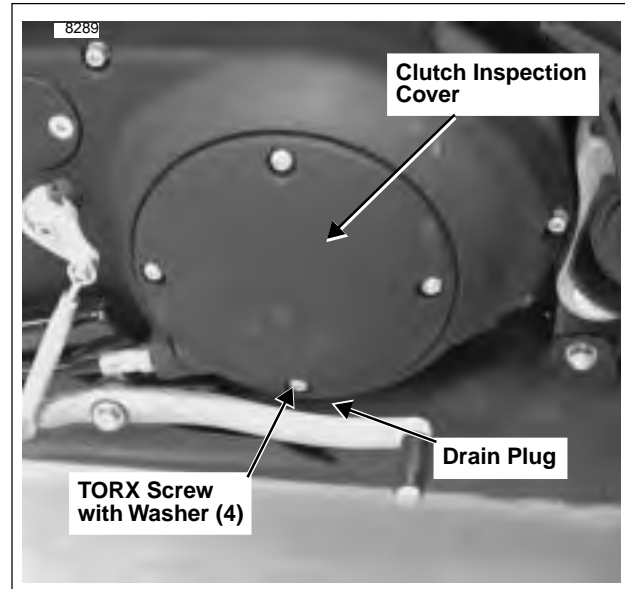

Figure 1-16. Primary Cover
3. See Figure 1-16. Position a suitable container under drain plug. Remove plug and drain fluid.
7. See Figure 1-16. Install clutch inspection cover using four TORX screws with washers. Tighten in a crosswise pattern to 7-9 ft-lbs (10-12 Nm).